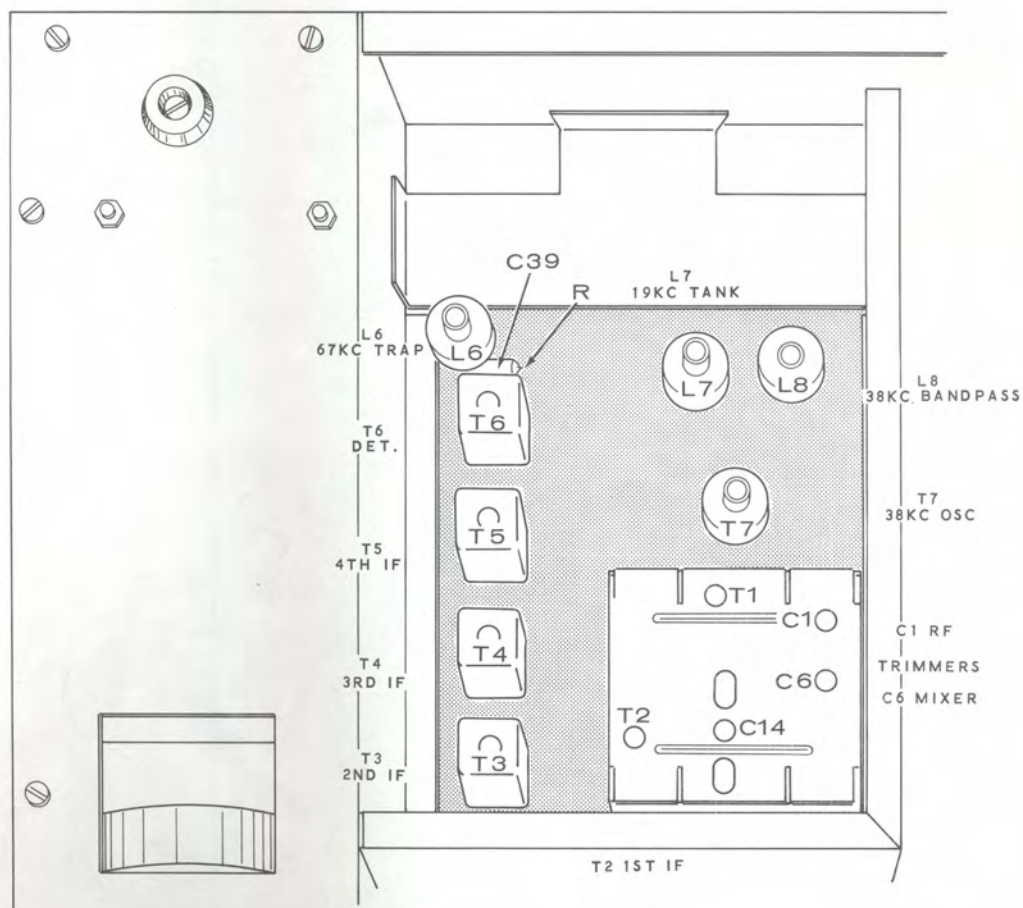

FIGURE 4
- () Disconnect the negative lead of capacitor C39 from the circuit board at point R. See Figures 4 and 5 (fold-out from Page 65).